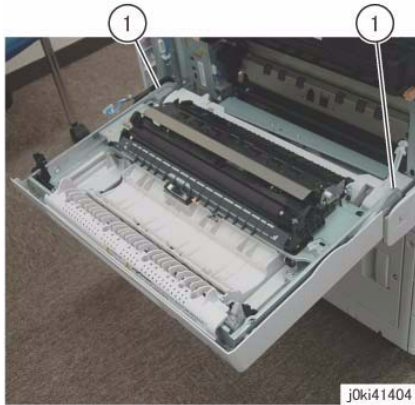

Figure 4 Remove the L/H Cover
8. Remove the L/H Cover Unit. (Figure 4)